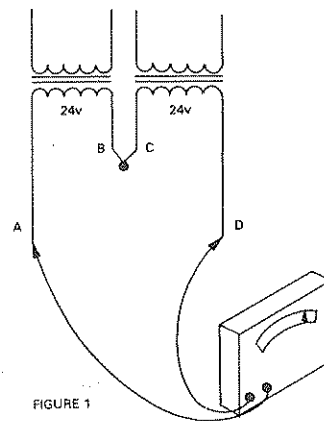
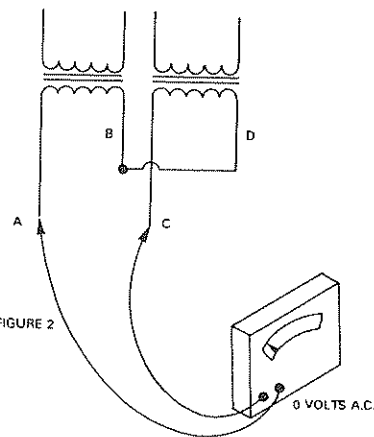

FIGURE 1
FIGURE 2
Wire the primaries of the transformers in parallel. Connect one wire from each transformer as shown in Figure 1. With a voltmeter, read voltage at leads (A) and (D). If voltmeter reads 48 volts, transformers are out of phase and must be connected as in Figure 2.
With correct phasing as shown in Figure 2, voltmeter will show 0 volts. (A) and (C) leads may be tied together. Transformers are in phase.